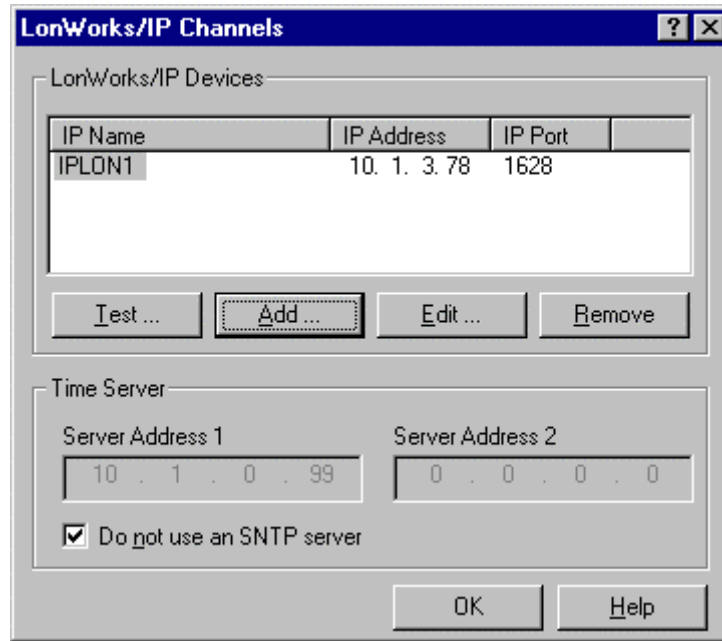

Figure 7-3 LONWORKS/IP Channels Control Panel
6. Click OK. The control panel will now look as shown in Figure 7-3: